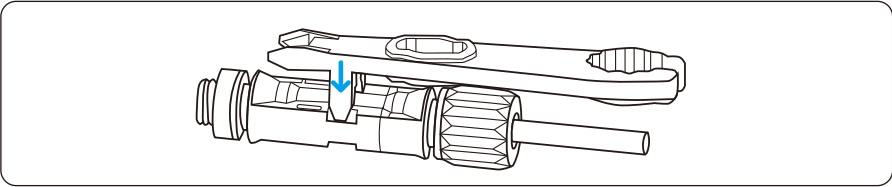

Figure 8.1 Removing DC input connector
Step 1: Disconnect all cables from the inverter, including communications cables, DC input power cables, AC output power cables, and PGND cables, as shown in Figure 8.1.